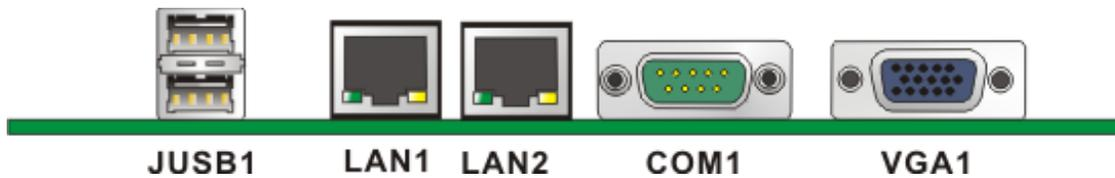

Figure 3-22: WAFER-LUKE CP Rear Panel
Figure 3-22 shows the WAFER-LUKE rear panel. The external peripheral interface connectors connect to devices externally when the WAFER-LUKE is installed in a chassis.
CN Location:	See Figure 3-22
- CN Location:** See Figure 3-22
- CN Location:** See **Figure 3-22**